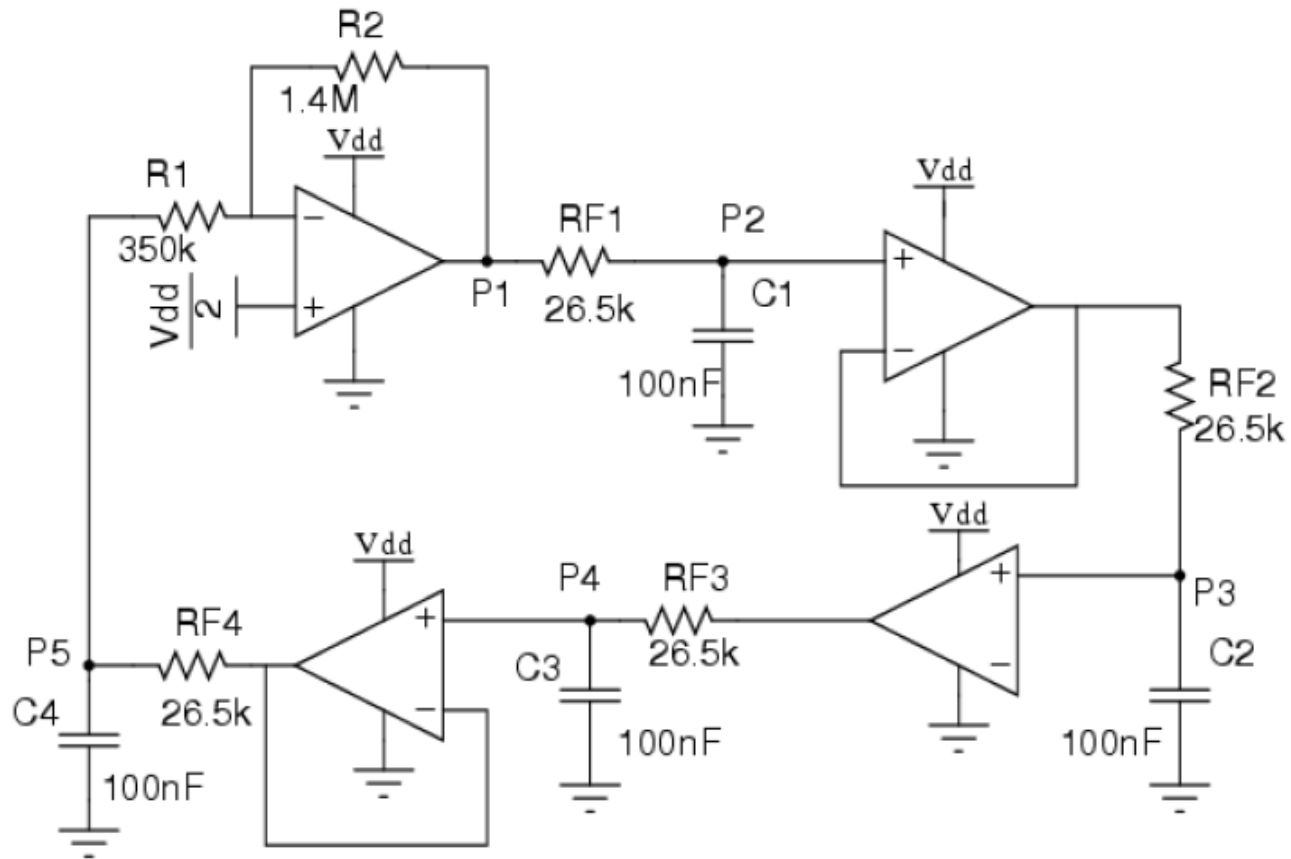

Figure 13: Bubba Oscillator Circuit
- The first step to creating an accurate pulse width modulation signal using analogue circuitry is to construct an accurate representation of the signal you wish to duplicate. In the case of a pure sine wave inverter the team wanted to construct a 60 HZ sine wave output. Therefore an oscillator was needed to produce a stable 60HZ sine wave that had little distortion so that the output could be as accurate as possible. A Bubba oscillator was chosen as the means to produce this signal because of its ability to produce a stable sine wave that contains very little distortion. The circuitry and values chosen are shown in Figure 13 and the opamp chip chosen to complete the task was an LM348 as it is an inexpensive part and meets all the requirements of creating this sine wave.